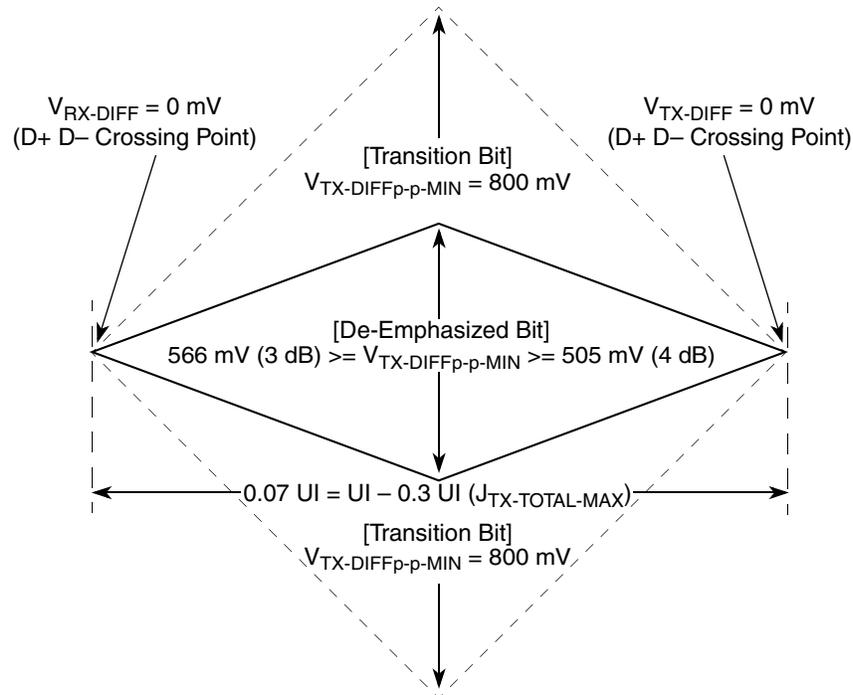
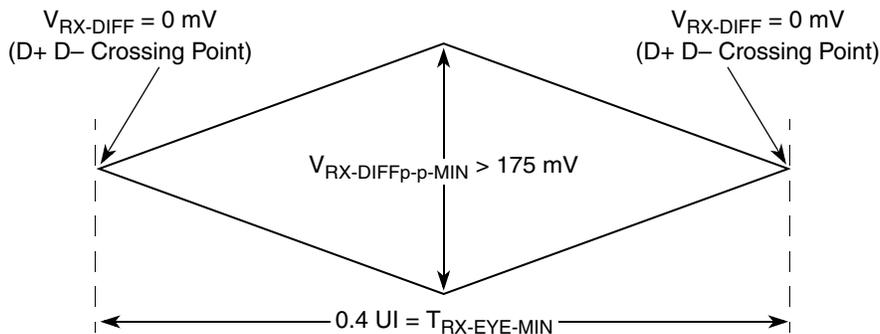
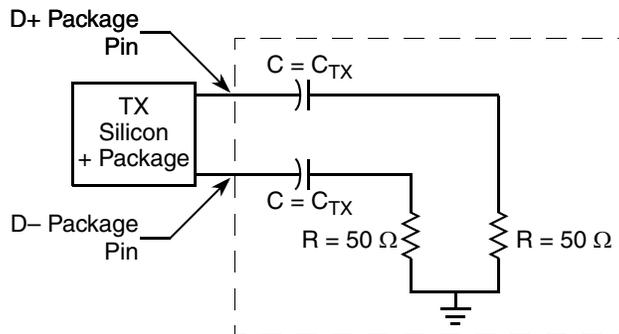

Figure 48. Minimum Transmitter Timing and Voltage Output Compliance Specifications
Figure 49. Minimum Receiver Eye Timing and Voltage Compliance Specification
Figure 50. Compliance Test/Measurement Load
2. Specified at the measurement point into a timing and voltage compliance test load as shown in Figure 50 and measured over any 250 consecutive TX UIs. (Also see the transmitter compliance eye diagram shown in Figure 48.)
4. The transmitter input impedance shall result in a differential return loss greater than or equal to 12 dB and a common mode return loss greater than or equal to 6 dB over a frequency range of 50 MHz to 1.25 GHz. This input impedance requirement applies to all valid input levels. The reference impedance for return loss measurements is 50 Ω to ground for both the D+ and D- line (that is, as measured by a vector network analyzer with 50- Ω probes—see Figure 50). Note that the series capacitors C_{TX} is optional for the return loss measurement.
5. Measured between 20%–80% at transmitter package pins into a test load as shown in Figure 50 for both $V_{\text{TX-D+}}$ and $V_{\text{TX-D-}}$.
The TX eye diagram in Figure 48 is specified using the passive compliance/test measurement load (see Figure 50) in place of any real PCI Express interconnect +RX component.
- Specified at the measurement point and measured over any 250 consecutive UIs. The test load in Figure 50 must be used as the RX device when taking measurements (also see the receiver compliance eye diagram shown in Figure 49). If the clocks to the RX and TX are not derived from the same reference clock, the TX UI recovered from 3500 consecutive UI must be used as a reference for the eye diagram.
- The receiver input impedance shall result in a differential return loss greater than or equal to 15 dB with the D+ line biased to 300 mV and the D– line biased to –300 mV and a common mode return loss greater than or equal to 6 dB (no bias required) over a frequency range of 50 MHz to 1.25 GHz. This input impedance requirement applies to all valid input levels. The reference impedance for return loss measurements for is 50 Ω to ground for both the D+ and D– line (that is, as measured by a vector network analyzer with 50- Ω probes—see Figure 50). Note: that the series capacitors CTX is optional for the return loss measurement.
The RX eye diagram in Figure 49 is specified using the passive compliance/test measurement load (see Figure 50) in place of any real PCI Express RX component.
Note: In general, the minimum receiver eye diagram measured with the compliance/test measurement load (see Figure 50) is larger than the minimum receiver eye diagram measured over a range of systems at the input receiver of any real PCI Express component. The degraded eye diagram at the input receiver is due to traces internal to the package as well as silicon parasitic characteristics which cause the real PCI Express component to vary in impedance from the compliance/test measurement load. The input receiver eye diagram is implementation specific and is not specified. RX component designer must provide additional margin to adequately compensate for the degraded minimum receiver eye diagram (shown in Figure 49) expected at the input receiver based on some adequate combination of system simulations and the return loss measured looking into the RX package and silicon. The RX eye diagram must be aligned in time using the jitter median to locate the center of the eye diagram.
The reference impedance for return loss measurements is 50. to ground for both the D+ and D– line (that is, as measured by a vector network analyzer with 50-Ω probes—see Figure 50). Note that the series capacitors, CTX, are optional for the return loss measurement.
The AC timing and voltage parameters must be verified at the measurement point, as specified within 0.2 inches of the package pins, into a test/measurement load shown in Figure 50.